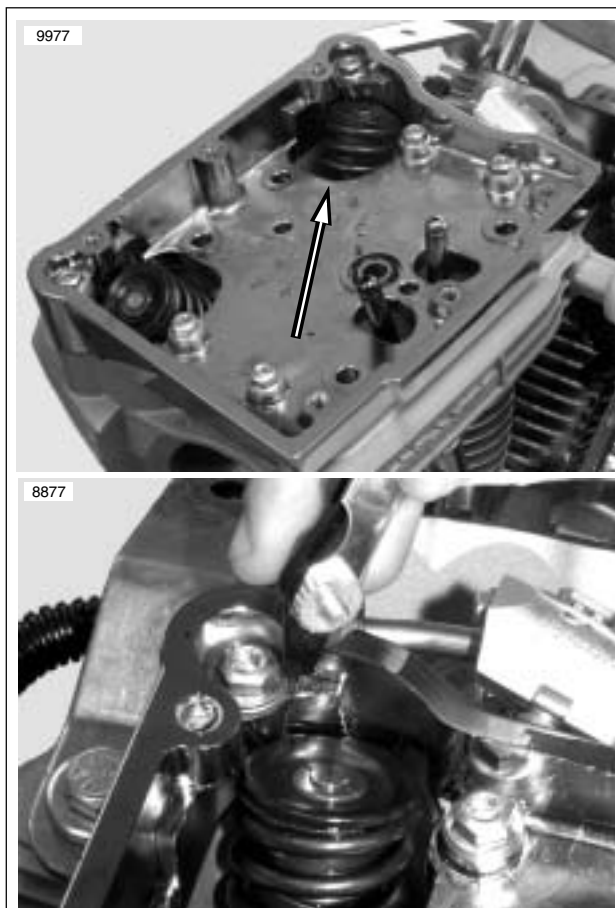

Figure 3-4. Valve Spring to Rocker Housing Clearance
9. See Figure 3-4. Using a feeler gauge, check for clearance around both valve spring assemblies and the rocker housing.